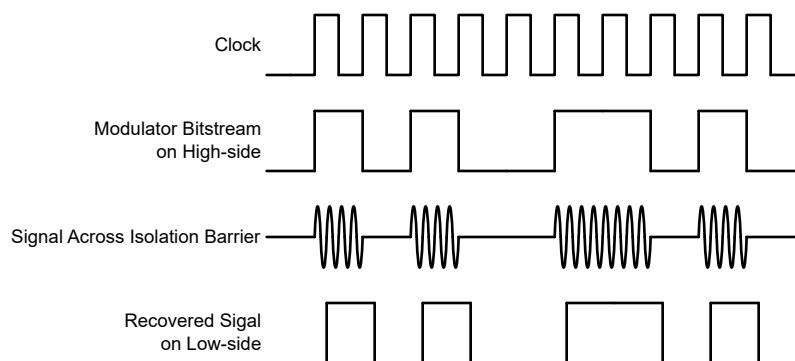

Figure 7-4. OOK-Based Modulation Scheme
The AMC1333M10 uses an on-off keying (OOK) modulation scheme, as shown in Figure 7-4, to transmit the modulator output bitstream across the SiO_2 -based isolation barrier. The transmit driver (TX) illustrated in the *Functional Block Diagram* transmits an internally generated, high-frequency carrier across the isolation barrier to represent a digital one and does not send a signal to represent a digital zero. The nominal frequency of the carrier used inside the AMC1333M10 is 480 MHz.
Figure 7-4 shows the concept of the on-off keying scheme.